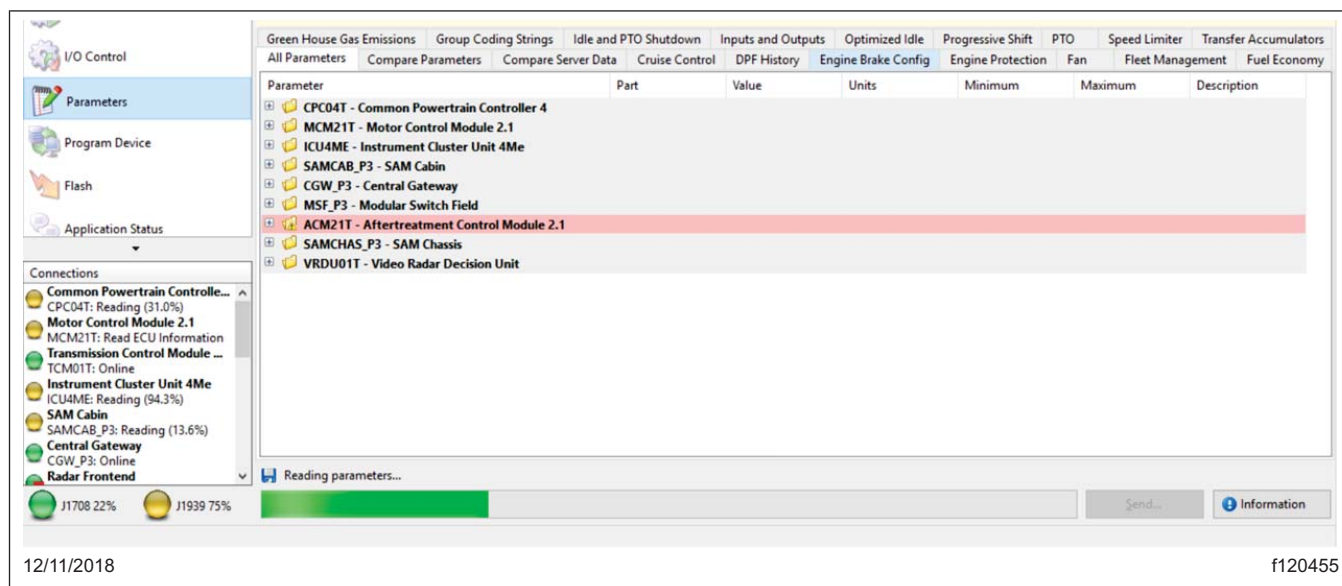

Fig. 3, Reading Vehicle Parameters on DiagnosticLink
4. Once all controllers are connected, read the vehicle parameters. See Fig. 3.